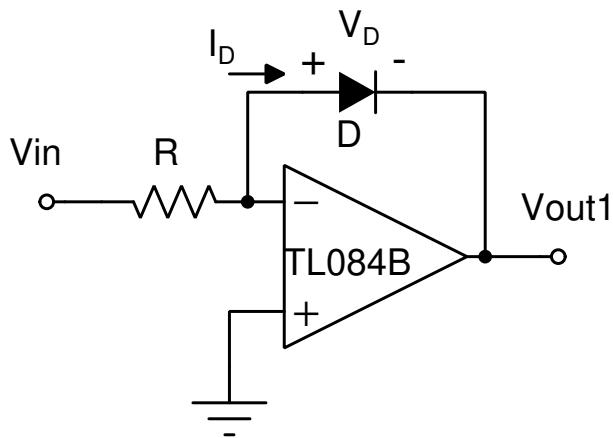
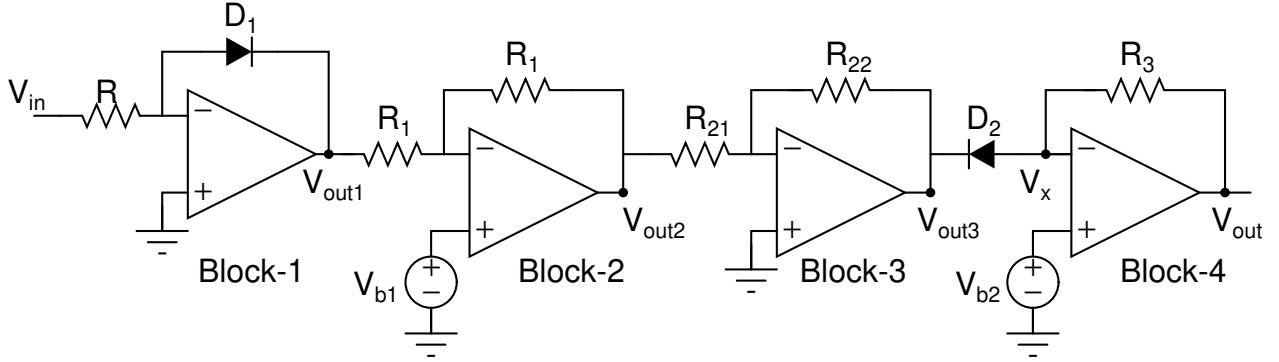

Figure 1: Basic log-amp circuit. For this circuit to function as a log-amp, the polarity of the input voltage should be positive.
Figure 2: Complete Analog Square-root Circuit.
A voltage can be easily converted to a current using the inverting amplifier configuration. You may please draw the circuit in your note book. The voltage applied to the input resistor is converted to a current, $I = V_{in}/R$, where R is the input resistor connected to the inverting terminal of the amplifier. The same current I is then forced through the device connected between the output of the op-amp and the inverting terminal. The device can as well be a diode. The circuit is given in figure 1.
From figure 1,
Equation (8) tells us that the output of the circuit in figure 1 is the natural logarithm of the input scaled by a factor a_1 and then offset by a_2 . We can remove the offset by subtracting a_2 from V_{out1} . The Block-2 is used for removing the offset from V_{out1} as shown in figure 2.